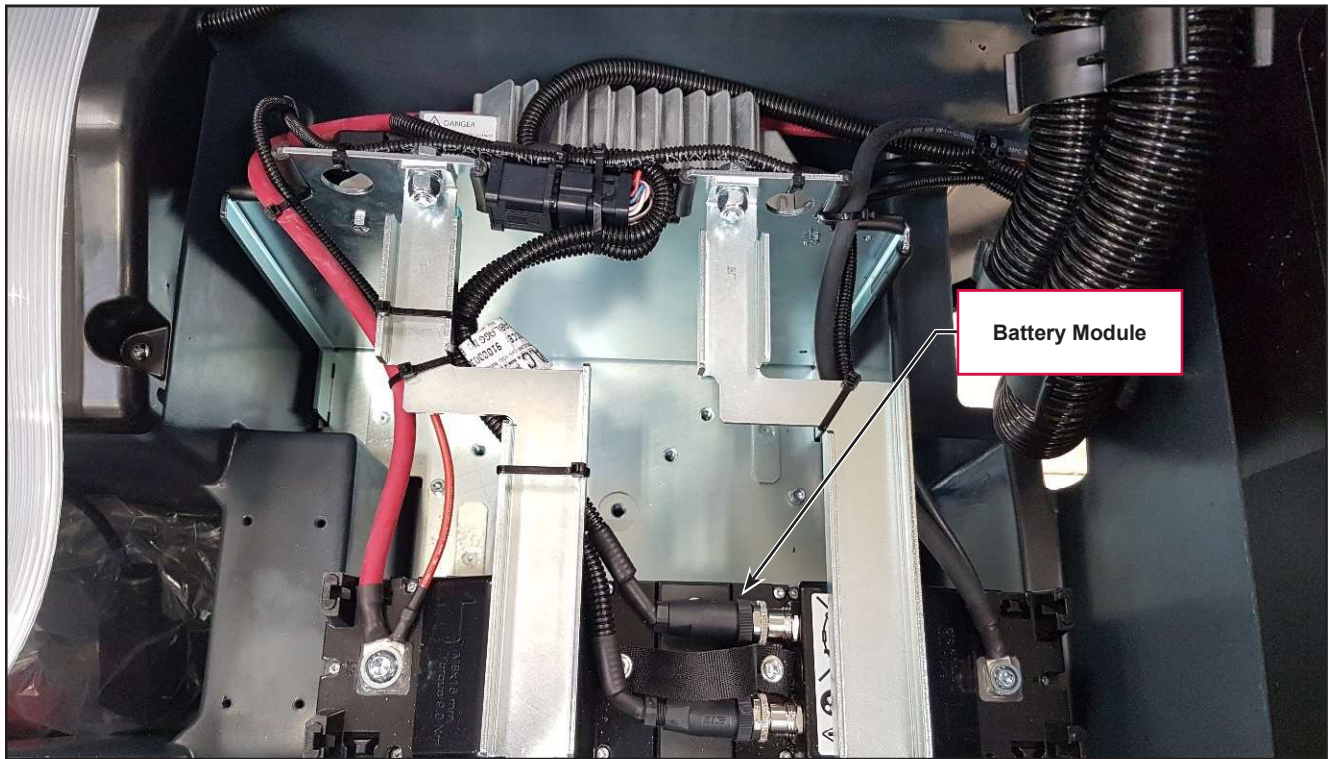

Figure 5:
2. Press the One-Touch button  to continue to the machine settings screen (Figure 5).